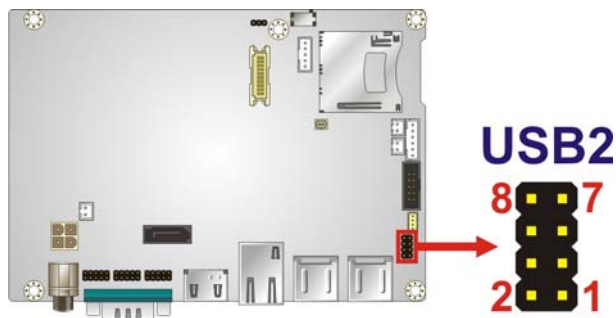

Figure 3-15: 8-pin USB Connector Location
- CN Location:** See Figure 3-15